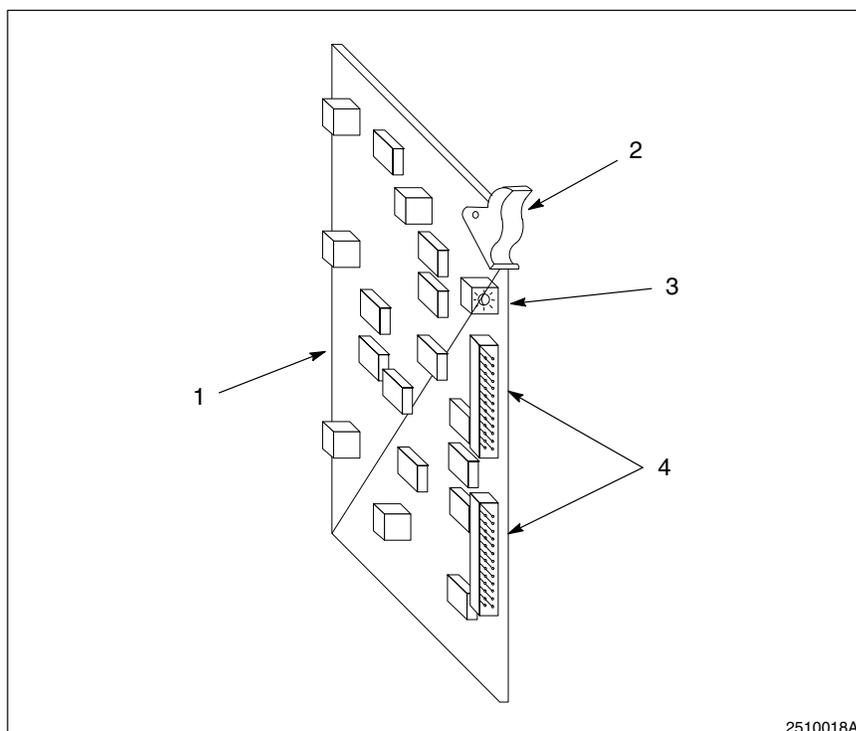

Fig. 5-2 Rotary Switch Setting (Board Address)
1. See Figure 5-2.
3. See Figure 5-2.